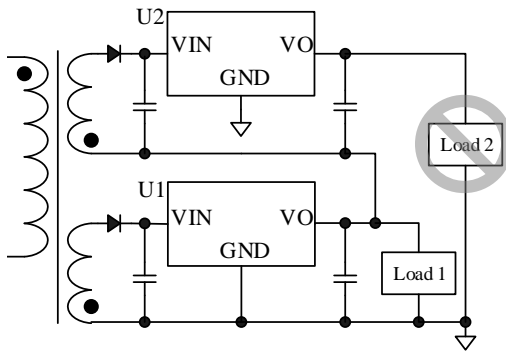

Figure 14-1. Stacked on Loads
- Load 2 is stacked on Load 1 (see in Figure 14-1).